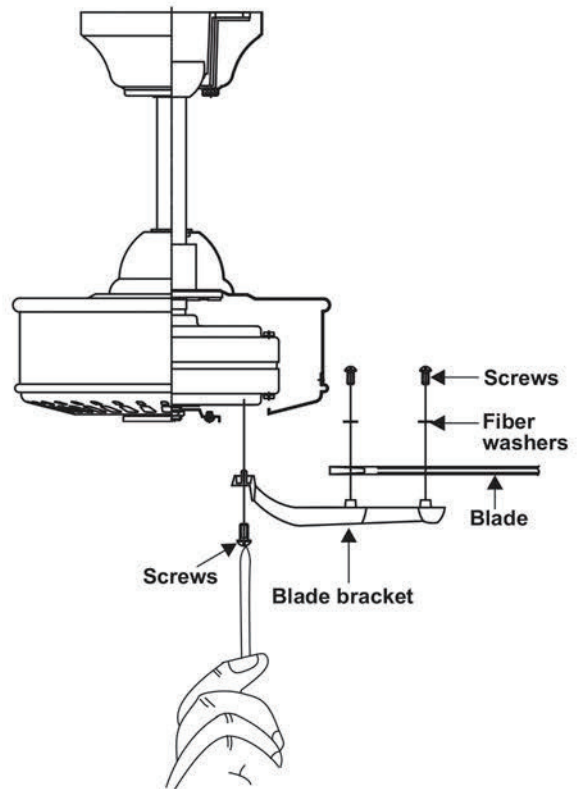

Figure 14
Step 1 Attach the blade to the blade bracket using the screws and fiber washers. Start screw into bracket. Repeat for the two remaining screws. (Fig. 14)